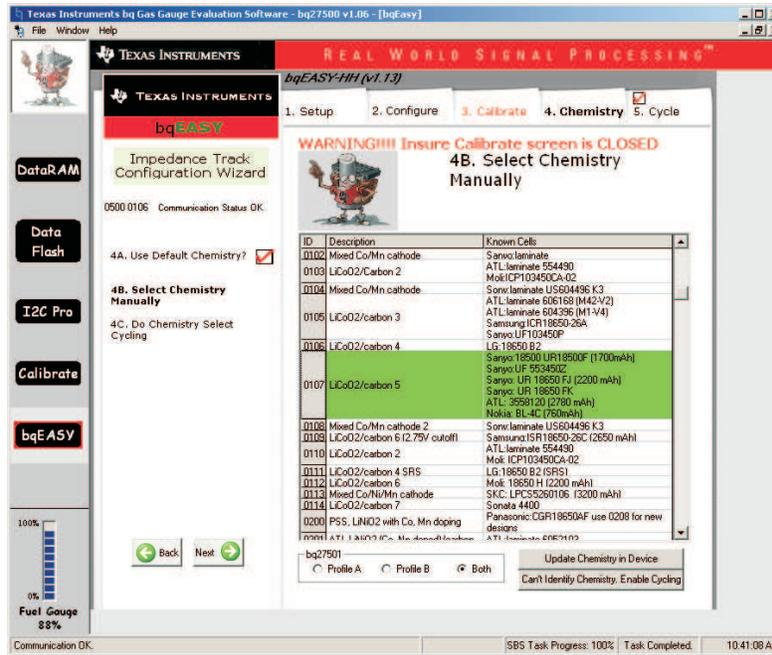

Figure 3. Load Chemistry
5. Because the chemistry is already identified from the previous learning cycle, the chemistry can be programmed into the device directly from the chemistry table. In order to do this, go to step 4B of bqEASY to select the chemistry manually (see Figure 3).